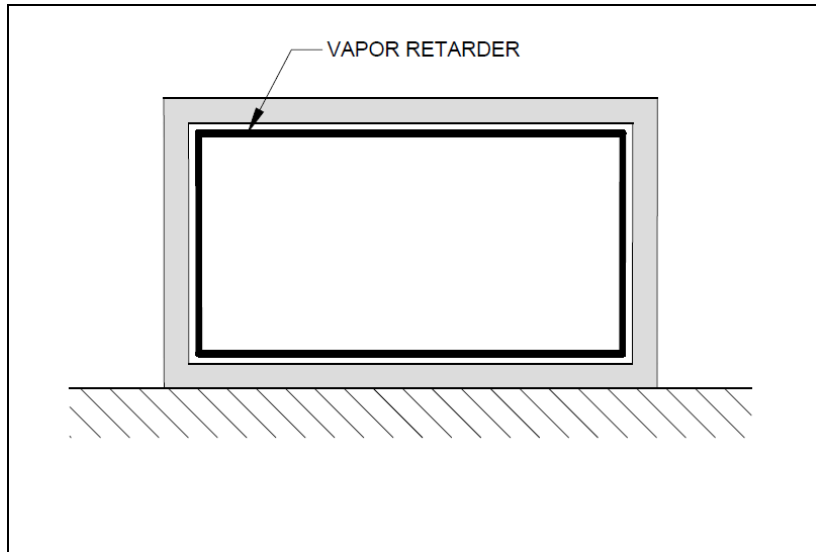

Figure 3: Conceptual Diagram of “Interior Envelope System Method”
**Interior Envelope System Method:** This method entails a vapor retarder system located on the interior side of the structural system. In this scenario, the vapor retarder system is located under the roof deck, inside the exterior walls and above the floor. See Figure 3 for a conceptual depiction of this method.